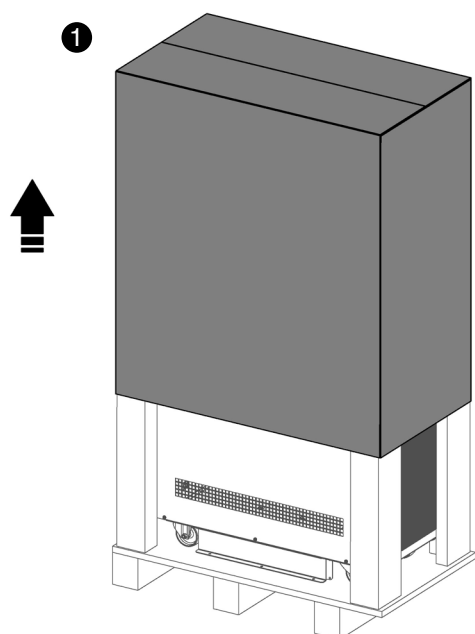
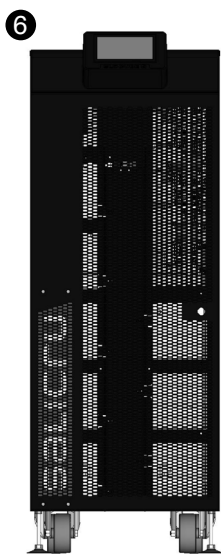

Fig. 22. Removing the cardboard packaging.
Fig. 27. Example of an unpacked unit.
In Fig. 22 to Fig. 27 are shown, by way of example, the illustrations corresponding to the unpacking of the UPS cabinet from 30 kVA to 40 kVA.
- ① To unpack the equipment, cut the strips of the cardboard enclosure and remove it from above as if it were a cover (Fig. 22) or disassemble it with the necessary tools if the enclosure is made of wood.
- ⑥ Equipment unpacked in its final location (Fig. 27).